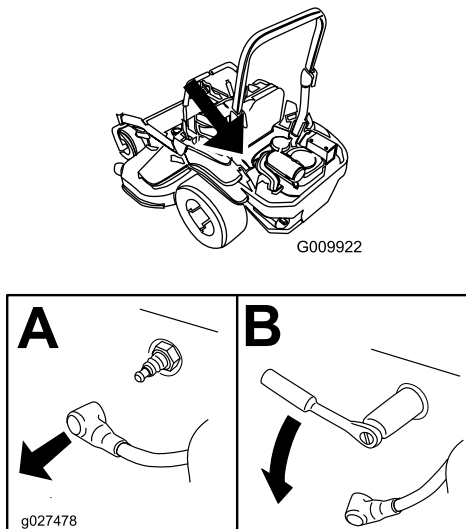

Figure 57
4. Locate and remove the spark plug(s) as shown in Figure 57.